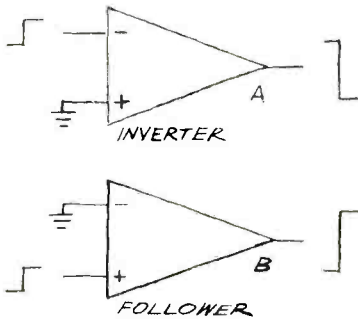

Fig. 4. The output of an op amp when a positive step is applied to the inverting and the non-inverting inputs.
To further understand the operation of the differential amplifier, consider the diagrams in Fig. 4. In A, a positive-going signal applied to the minus input produces a negative-going output. Thus the configuration at A is called an inverter and the minus input is called the inverting input. If the same signal is applied to the
positive (non-inverting) input, the output is positive-going and the configuration is called a follower. Because no feedback is used in Fig. 4, the amplifiers are operating "open loop" and a small input produces a large output.
The two dc voltmeters shown in Fig. 4 illustrate some interesting points. In both circuits, the 5000-ohm output resistors can be changed to affect the basic circuit sensitivity. For example, making this resistor 1000 ohms gives both voltmeters full-scale ranges from 0.1 to 100 volts. Circuit A would then have an input sensitivity of 100,000 ohms per volt, but circuit B would retain its original 10-megohm input. Circuit B also has a null balance circuit since the typical offset
Fig. 4. A pair of dc voltmeters using an op amp. The circuit at (A) is 20,000 ohms per volt, while that at (B) is 10 megohms per volt. Text discusses design changes to improve this simple design. In both cases, the meter has a conventional 0.1 mA movement.